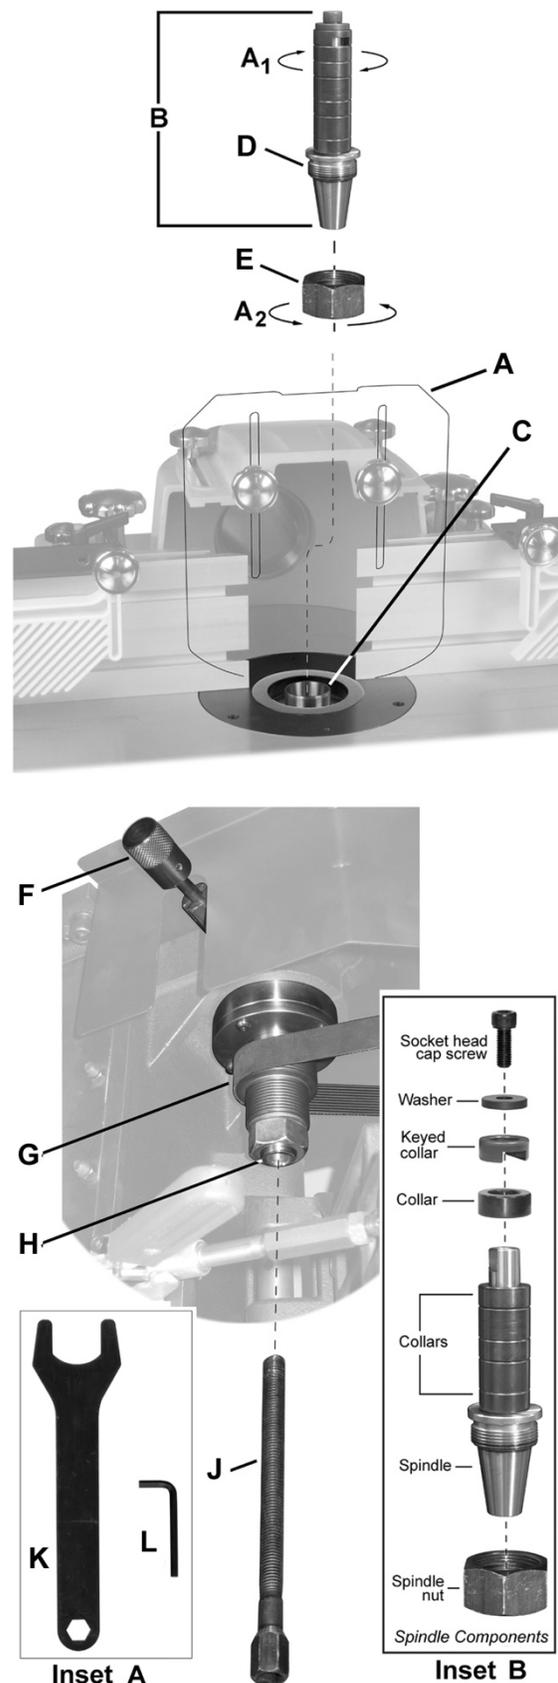
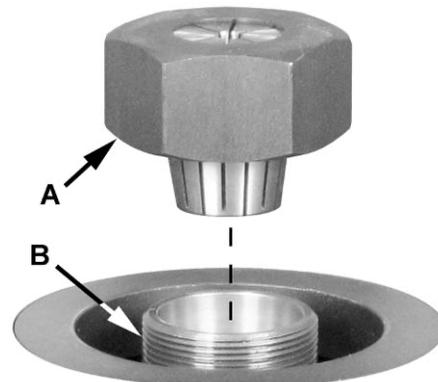

Figure 15
Figure 17
Refer to Figure 15. The *fence guard* (A) has been removed for clarity.
Referring to Figure 15:
1. Locate the *spindle lock* (F, Fig. 15) accessible through the door on the right side of the cabinet. Pull out and rotate 90° right or left, resetting the knob into the indent.
Attempt to turn the *spindle* (B, Fig. 15) by hand to verify that it is locked and will not rotate.
1. Pull out the *spindle lock* (F, Fig. 15) accessible through the door on the right side of the cabinet. Rotate 90° right or left, resetting the knob into the indent.
2. Place the *router collet* (A, Fig. 17) onto the *spindle* (B, Fig. 17) and secure with the *wrench* (K, Fig. 15) provided.
3. Unlock the spindle by pulling out the *lock knob* (F, Fig. 15) accessible through the door on the right side of the cabinet. Rotate 90° right or left, resetting the knob into the indent.
Turn the *router collet* (A, Fig. 17) by hand to verify that it turns freely.